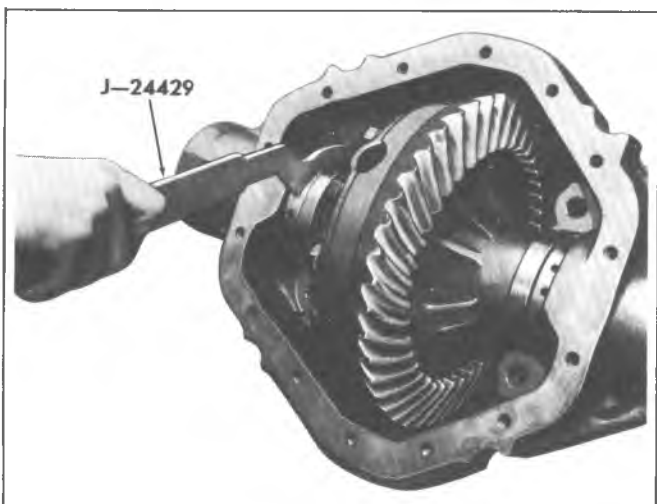

Fig. 3E--Loosening Adjusting Nuts
6. Loosen side bearing adjusting nuts, using J-24429 as shown in figure 3E.
2. Loosen the right side adjusting nut and tighten the left side nut, using J-24429 as shown in figure 3E, until the ring gear contacts the drive pinion. Do not force the gears into contact so as to bind them. At this point, zero lash is obtained.